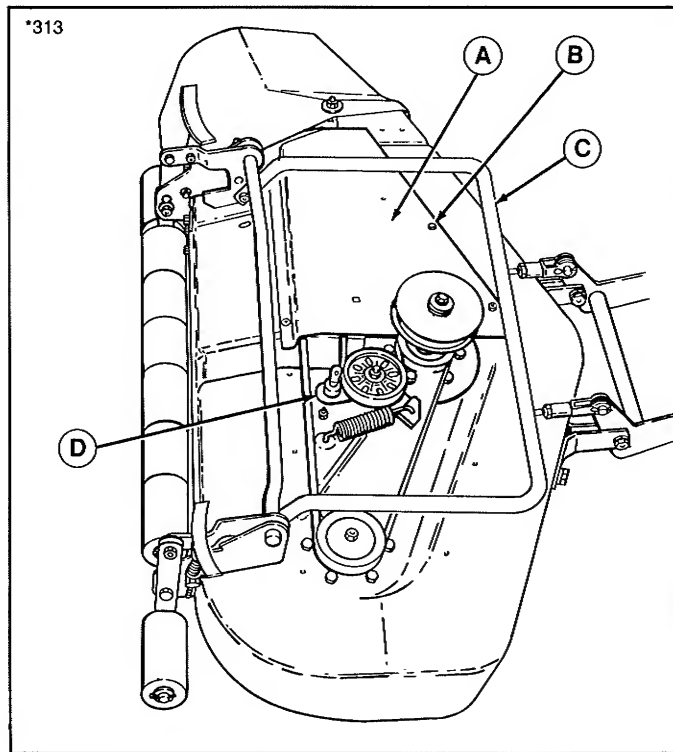

Figure 8. Idler Pulley Pivot (48" Mower Shown)
3. Remove the taptite screws to remove the right hand cover (both covers can be removed to check/clean inside of mower deck). See figure 8.